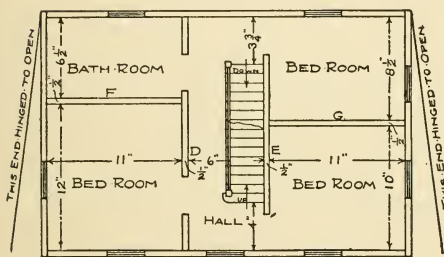

FIG. 66. SECOND FLOOR PLAN
**Lay the Second Floor**, cutting a three by ten inch stair opening in the place indicated on the plan (Fig. 66), and fasten the boards to the front and rear walls. Draw upon this the second-floor plan, and